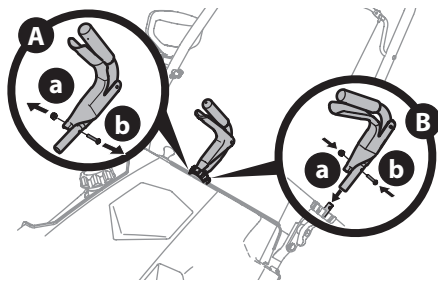

Figure 14
1. Remove the hex lock nut (a) and machine screw (b) from the chute rotation control assembly (Figure 14, Inset A).
2. Place the chute rotation control assembly onto the chute rotation rod, align the holes and secure with the hex lock nut (a) and machine screw (b) (Figure 14, Inset B).